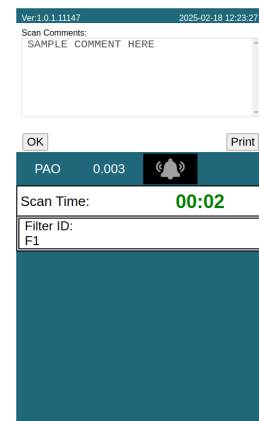

Figure 33. Return to Main screen or re-print scan
**Step 4.** Once the printout is complete, the user will have the option to press "OK" to proceed to the Main screen or "Print" to re-print the scan (Figure 33)